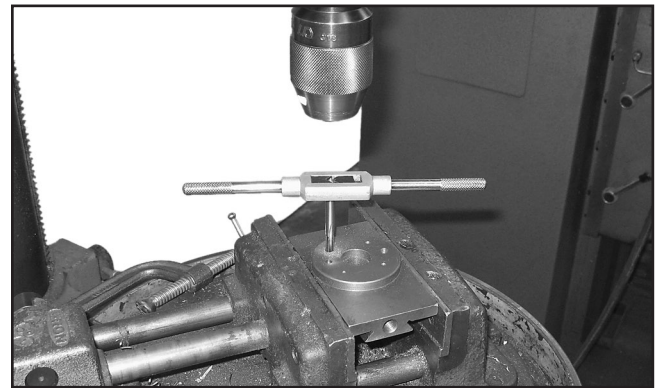

Figure 12. Tapping screw holes in the base one at a time.
17. Open the drill chuck to release the tap, then raise the spindle up out of the way, and use the tap handle to cut threads as far as you can with the taper tap (**Figure 12**).